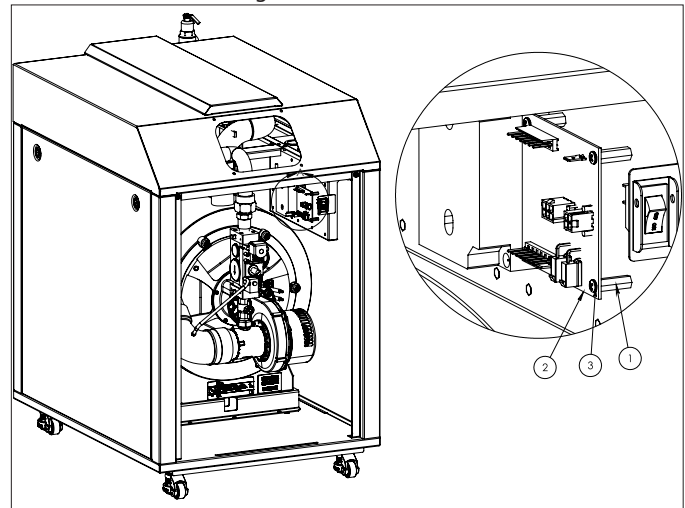
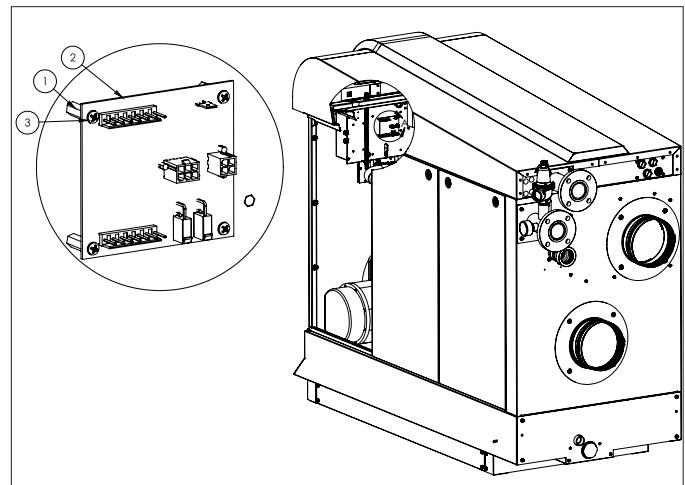
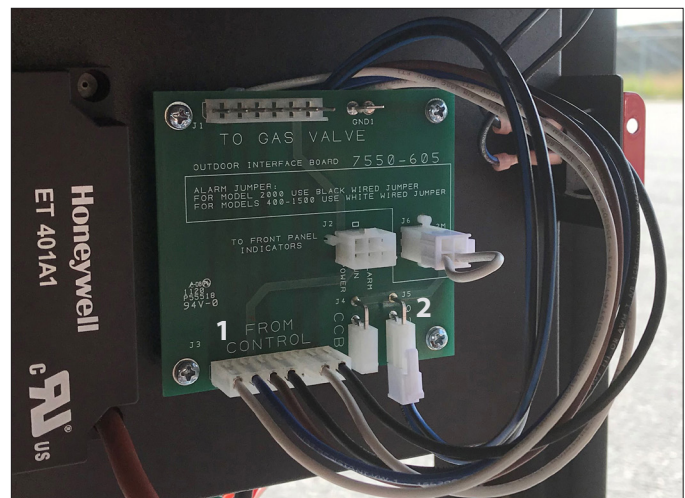

Figure 11 - Outdoor Interface Board Mounted on Standoffs
Figure 12 - Outdoor Interface Board Mounted on Standoffs
Figure 13 - Installed Outdoor Interface Board with Attached Wire Harnesses
3. Thread the four (4) standoffs onto the right side of the boiler cabinet.
4. Use a Phillips Head screwdriver and the four (4) screws to mount the Outdoor Interface Board (OIB) onto the four (4) standoffs. See Figure 11 for 400 - 1000 models, and Figure 12 for 1500 - 2000 models. See Figure 13 for installed board with harnesses.
- Plug the other end of the 2-pin interface cable into J5 (928) of the OIB. See Figure 13.
- For 400 - 1.5M boilers: Install the WHITE wired jumper (6) into J6 of the OIB.